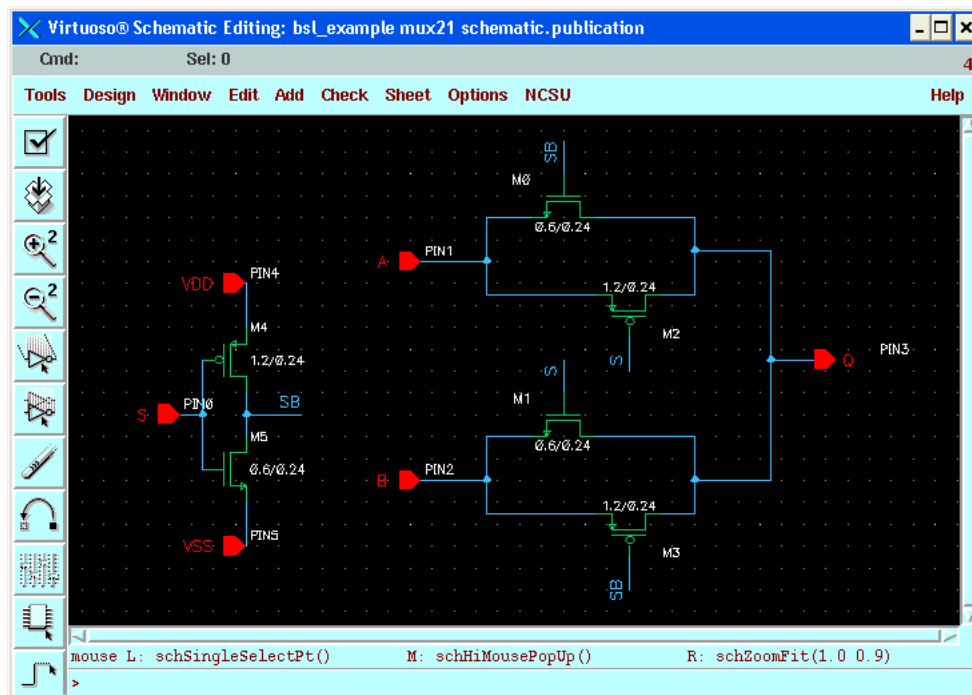

Figure 7.2: 2x1 multiplexer
- Cadence knows that all nets with the same name are considered connected. Labels are created with keystroke "l" and you must click directly on the wire being labeled when placing the labels in figure7.2.